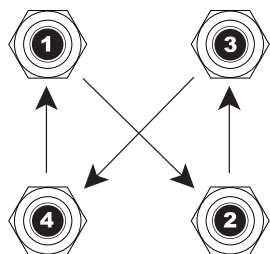

Fig. 2
2. Finger tighten the lug nuts in a cross sequence pattern (Ref. Fig. 2).